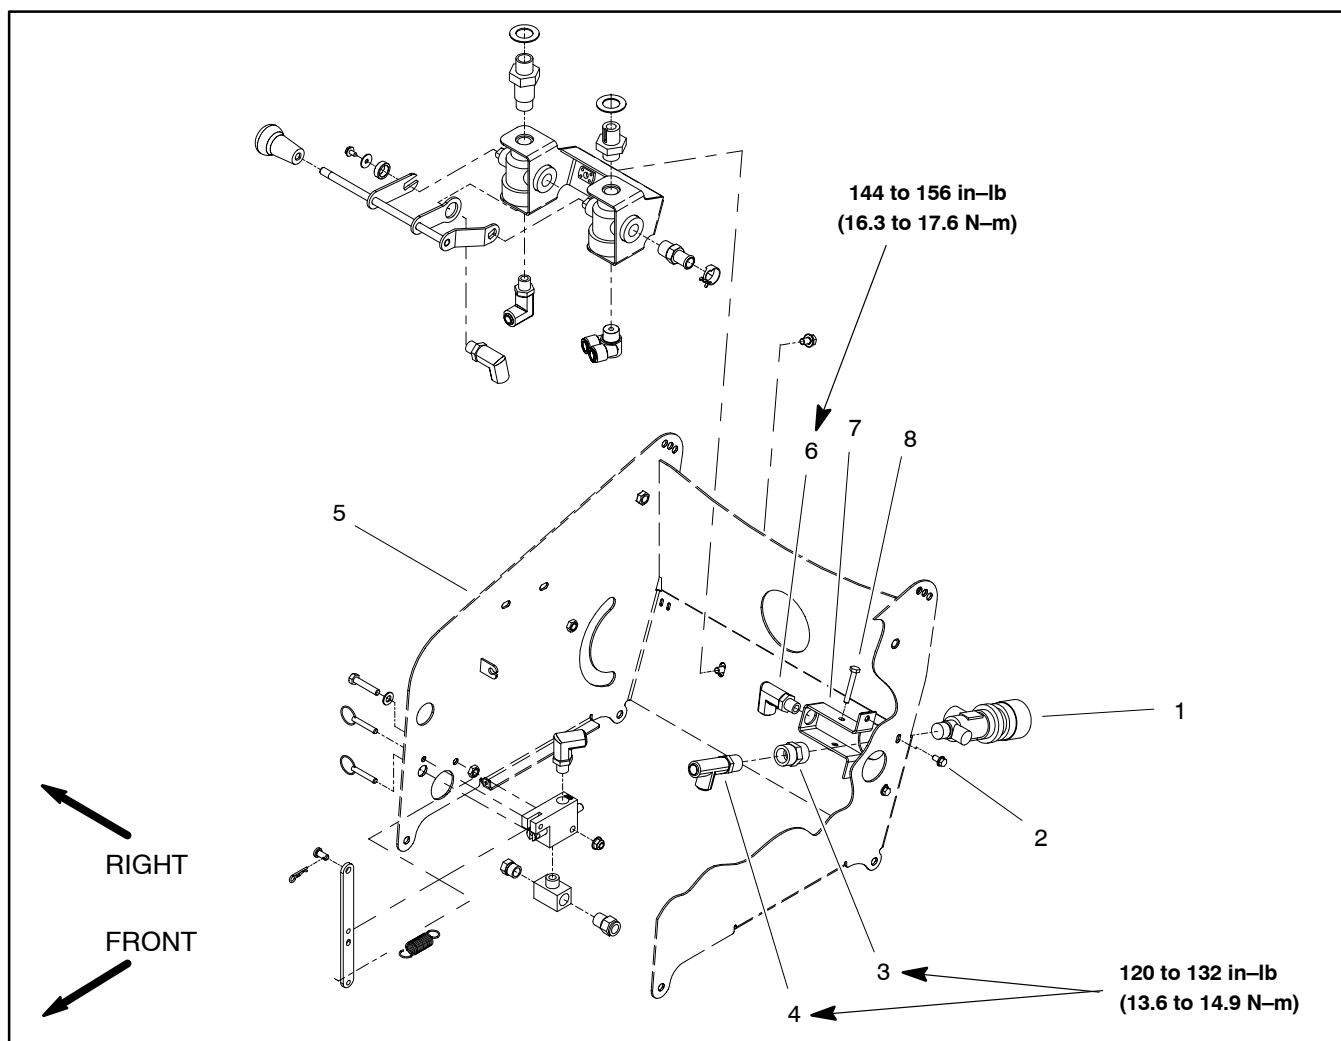

Figure 22
Removal (Fig. 22)
6. Remove pressure regulator from machine using Figure 22 as a guide.
Installation (Fig. 22)
1. If fittings were removed from pressure regulator, apply Saf-T-Lok PTFE Pipe Sealant (or equivalent) to threads of fittings (see Thread Sealant for Paint System Fittings in the General Information section). Install fittings to regulator. Torque fittings to values identified in Fig. 22.
2. Install regulator to machine using Figure 22 as a guide.